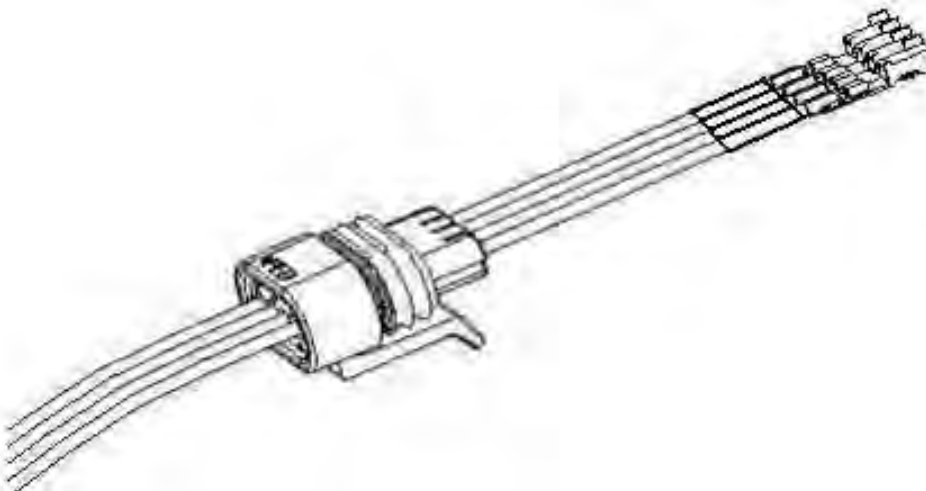

Figure 64
- l. Position heat shrink, if installed in Step f, behind contacts installed in previous step and shrink using a heat gun as shown in Figure 64.